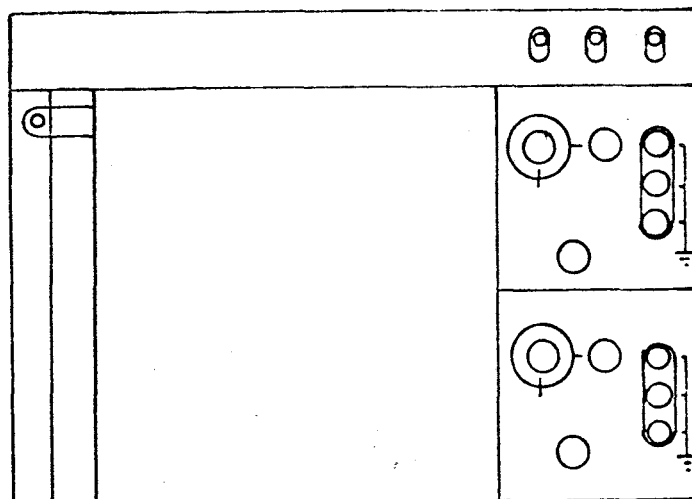

Figure 10
5. Push the FUNCTION SELECTOR BUTTON, ⑬, once to select the next calibration function, $Y=1; X=0$. This should move the plotter pen to the upper left hand corner of the paper or field of interest as demonstrated by Figure 10 below.